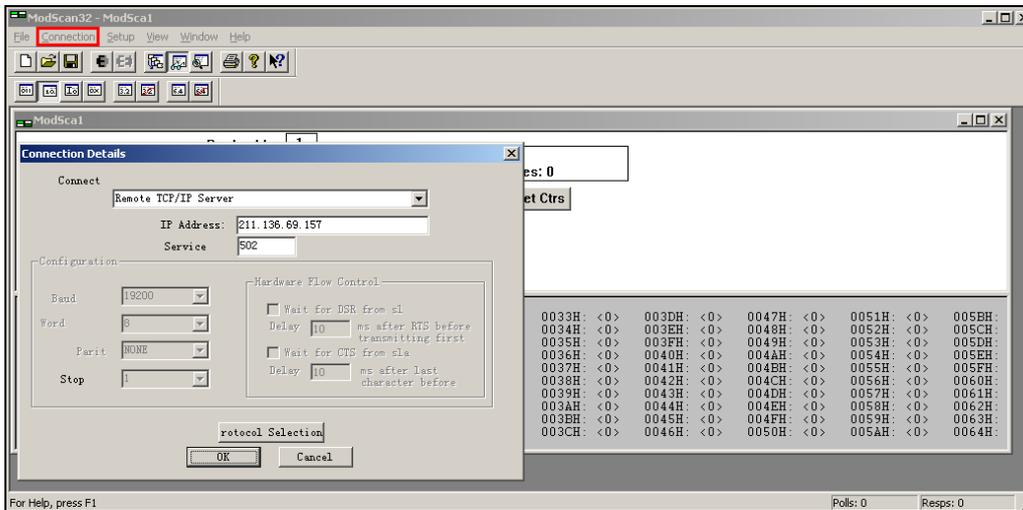

Figure 2-17 Modbus master connect with TCP server
Step 4: Run the ModScan32.exe tool, choose **Connection > Connect**. In the pop-up dialog box, set **IP Address** to the IP address of DTU and **Service** to 502, as shown in Figure 2-17.